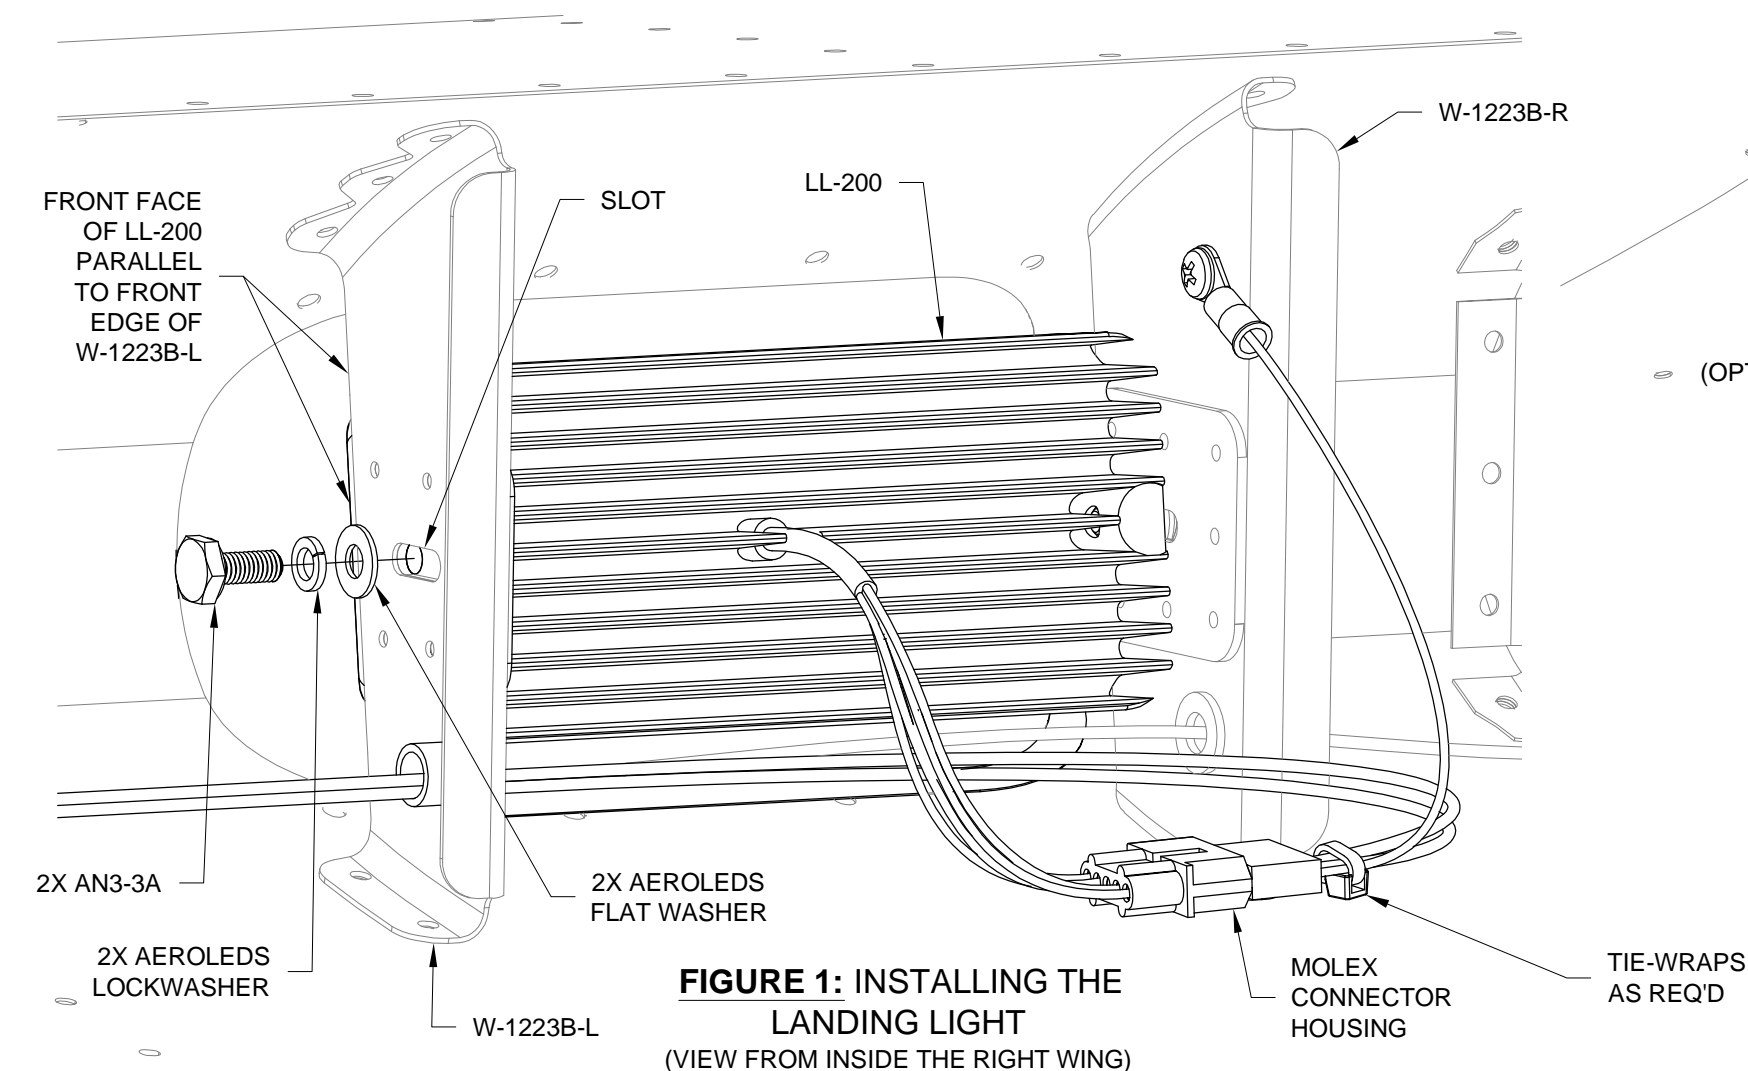

FIGURE 1: INSTALLING THE LANDING LIGHT
Finish tightening the bolts using a box end wrench while continuing to hold the front face of the LL-200 parallel to the front edge of the W-1223B-L & -R. See Figure 1.
Step 2: Fit the W-1222-L & -R to each wing tip then drill #30 the forward two and aft two holes into the upper flange and the W-1204E-L & -R Fwd Wing Tip Ribs. See Figure 1.